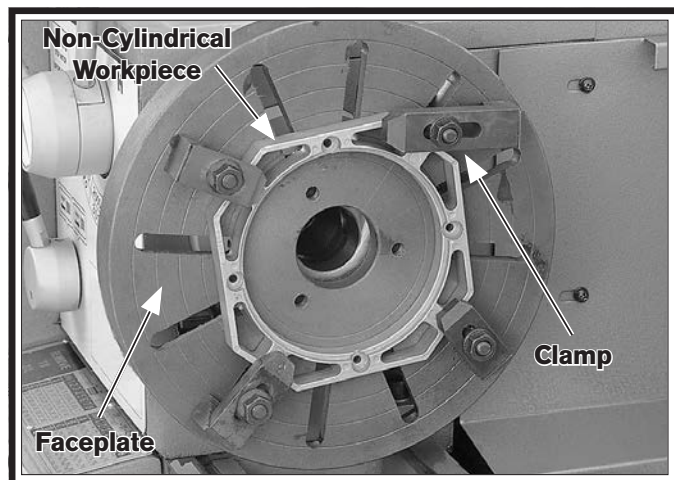

Figure 35. Example photo of workpiece clamped in a faceplate.
3. With help from another person or a holding device to support the workpiece, position it onto the faceplate and clamp it in place with a minimum of three independent clamping devices (see **Figure 35** for an example).